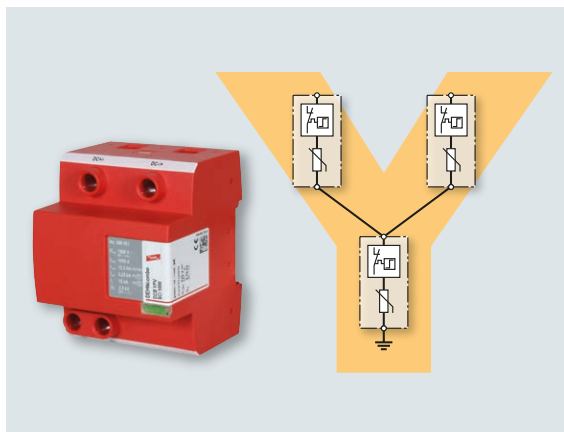

Figure 9 DEHNCombo YPV type 1 + type 2 combined arrester with fault-resistant Y circuit
With its proven fault-resistant Y circuit, DEHNCombo YPV (FM) fulfils the requirements mentioned above (**Figure 9**).